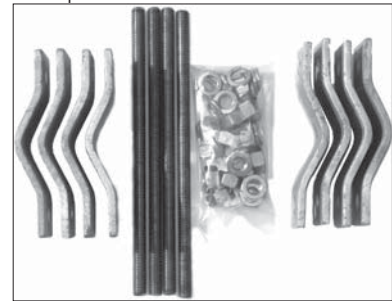

Figure 2:
1. Thread bolts through dual clamps with hex nuts in the middle of the clamps as shown in figure 2. Allowing proper spacing, mount both clamps to the support structure with 2 single clamp plates, hex nuts, and lock washers. Be sure to allow sufficient thread length on the antenna side of the clamps.